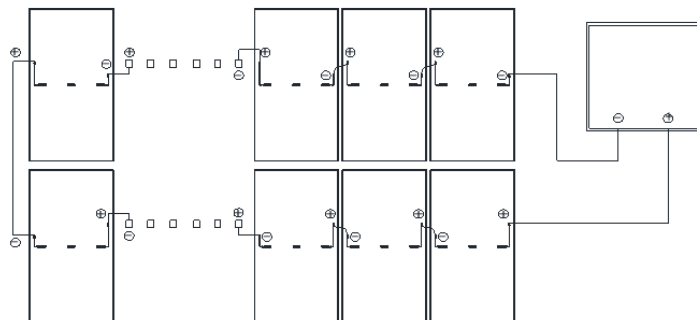

Fig. 9-3 Vertical installation of long cable modules
- When you install modules with long cables, connect it with its own cable length and do not use extended cables, see Fig. 9-3 and 9-4, When connect adjacent modules in different rows or columns, connect cables on the same side and avoid connecting cables along the diagonal line.